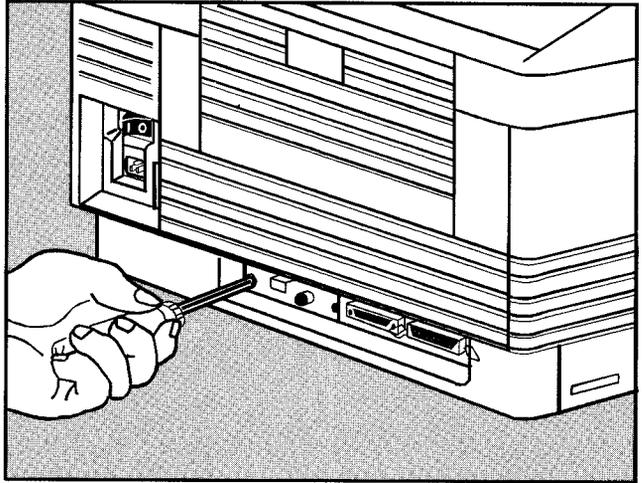

Figure 3-6. Tightening the Faceplate Screws
- b. Once the card's faceplate is flush with the printer, tighten both screws to secure it in place. See Figure 3-6.